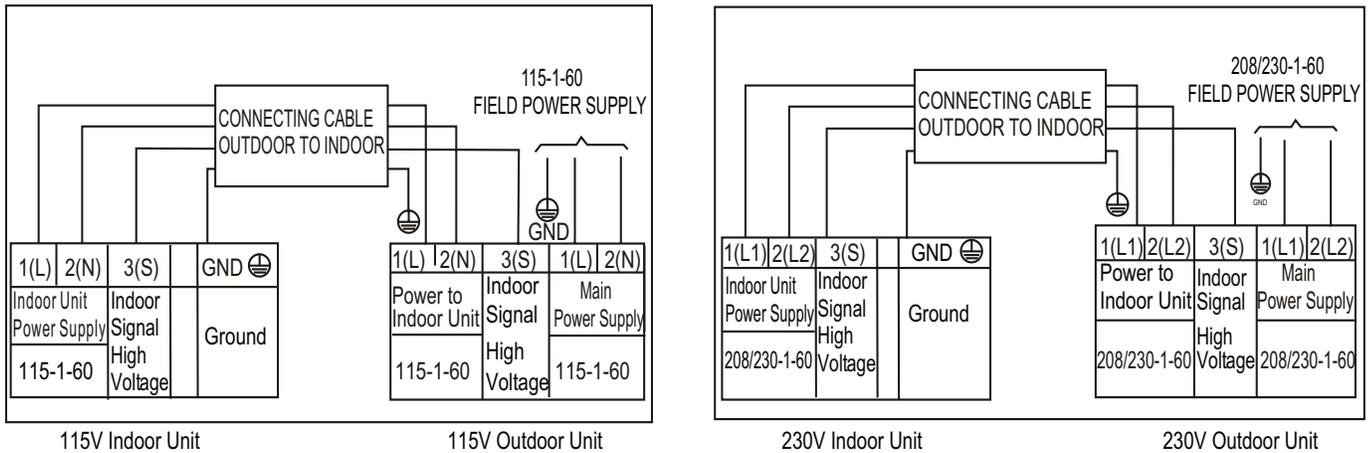

Fig. 23 — Connection Diagrams
2. All connections between the indoor and outdoor units must be made as shown in Figure 23. The connections are sensitive to polarity and will result in a fault code.